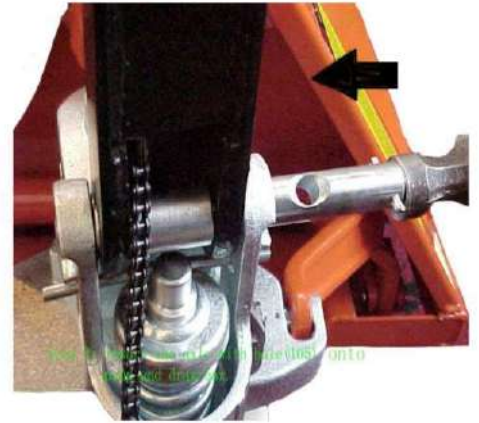

Fig.1
2.2.1. Insert the tiller into the right piston of the pump (303), then assemble the axle (G105) on the tiller, and hit the axle with a hammer from the right to the left, to make the tiller well connected with the hydraulic pump (see figure 1).